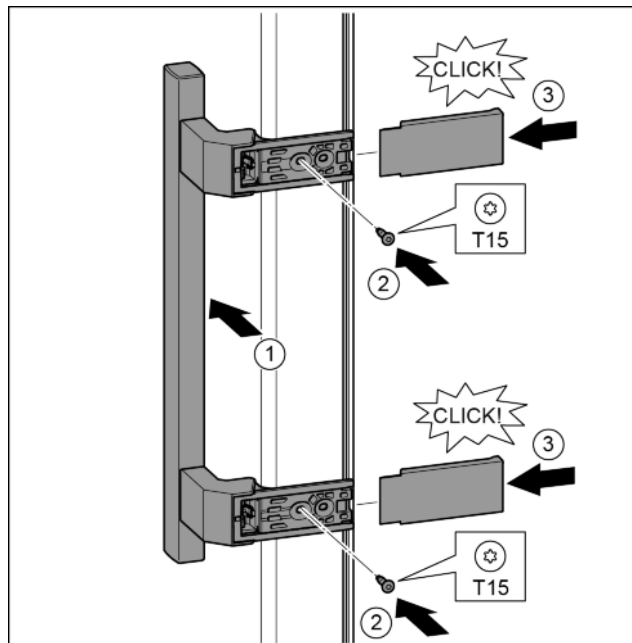

Fig. 15
- Position the handle on the other side. Fig. 15 (1)
- Tighten the screws with the T15 screwdriver. Fig. 15 (2)
- Position the covers on the side and push in. Fig. 15 (3)